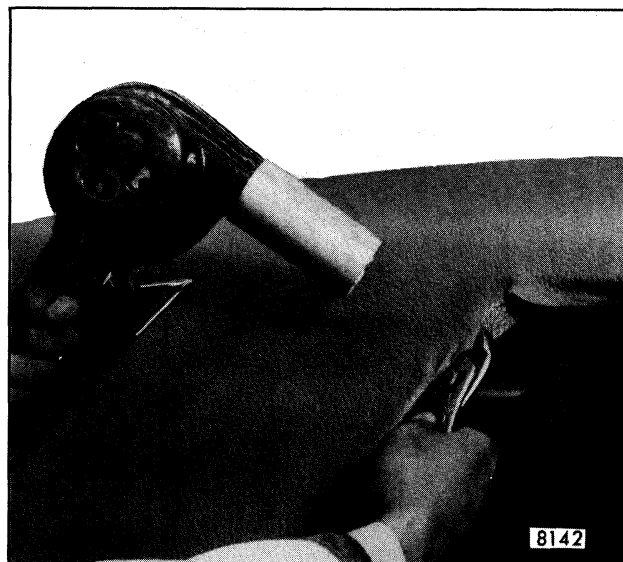

Fig. 8-52-Loosening Edge of Fabric Roof Cover
approximately one inch from the cover and moved in a circular motion (Fig. 8-52). Heat lamps can also be used if held a minimum of eighteen inches from the cover.
6. Using a pair of pliers carefully loosen edges of roof cover as shown in Figure 8-52.